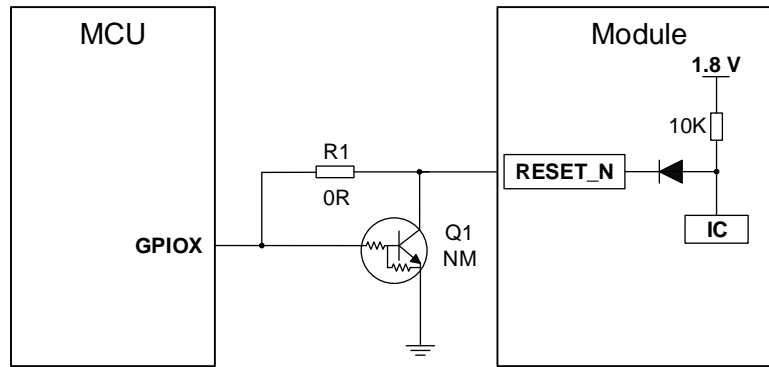

Figure 13: Reference Compatible Circuit for Module Reset
1. The Figure 13: Reference Compatible Circuit for Module Reset is the compatible circuit scheme of RESET_N. The corresponding circuit can be selected according to your demands (mounting either R1 or Q1).